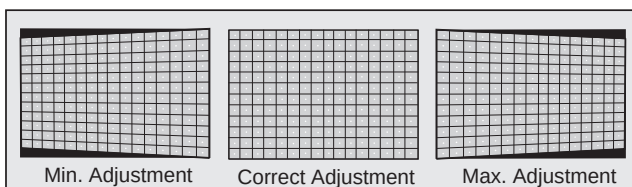

Figure 30. Trapezoid adjustment
1. Enter service mode, select "HTRAP" and adjust DATA so that horizontal lines are straight (see Fig. 30)